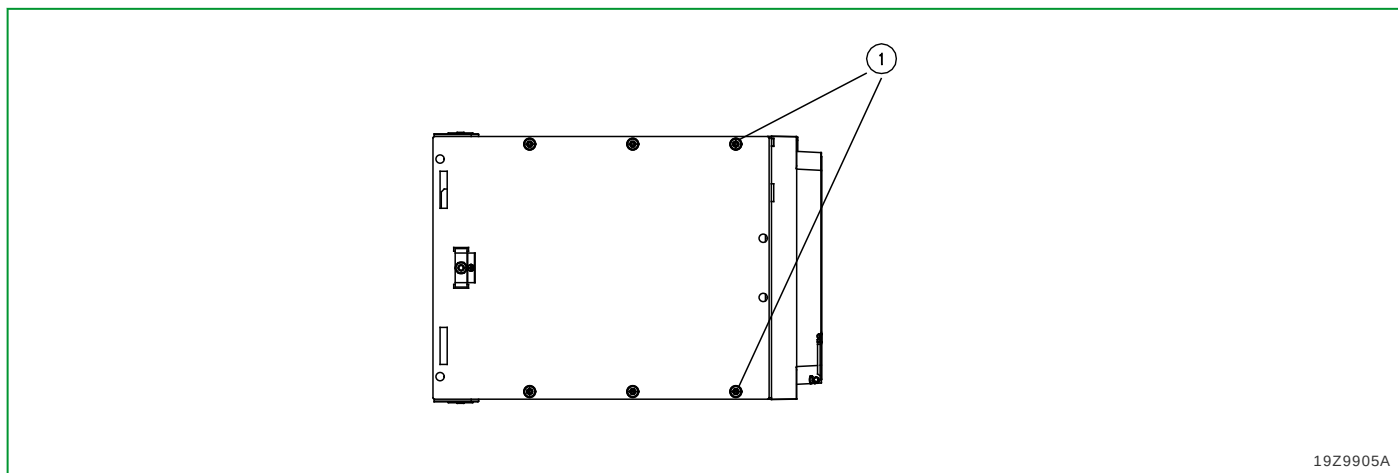

Fig. 5-4: Mounting the angle brackets.
1. Remove the screws as shown in Fig. 5-4, (p. 5-10), ① and mount the enclosed angle brackets using these same screws.